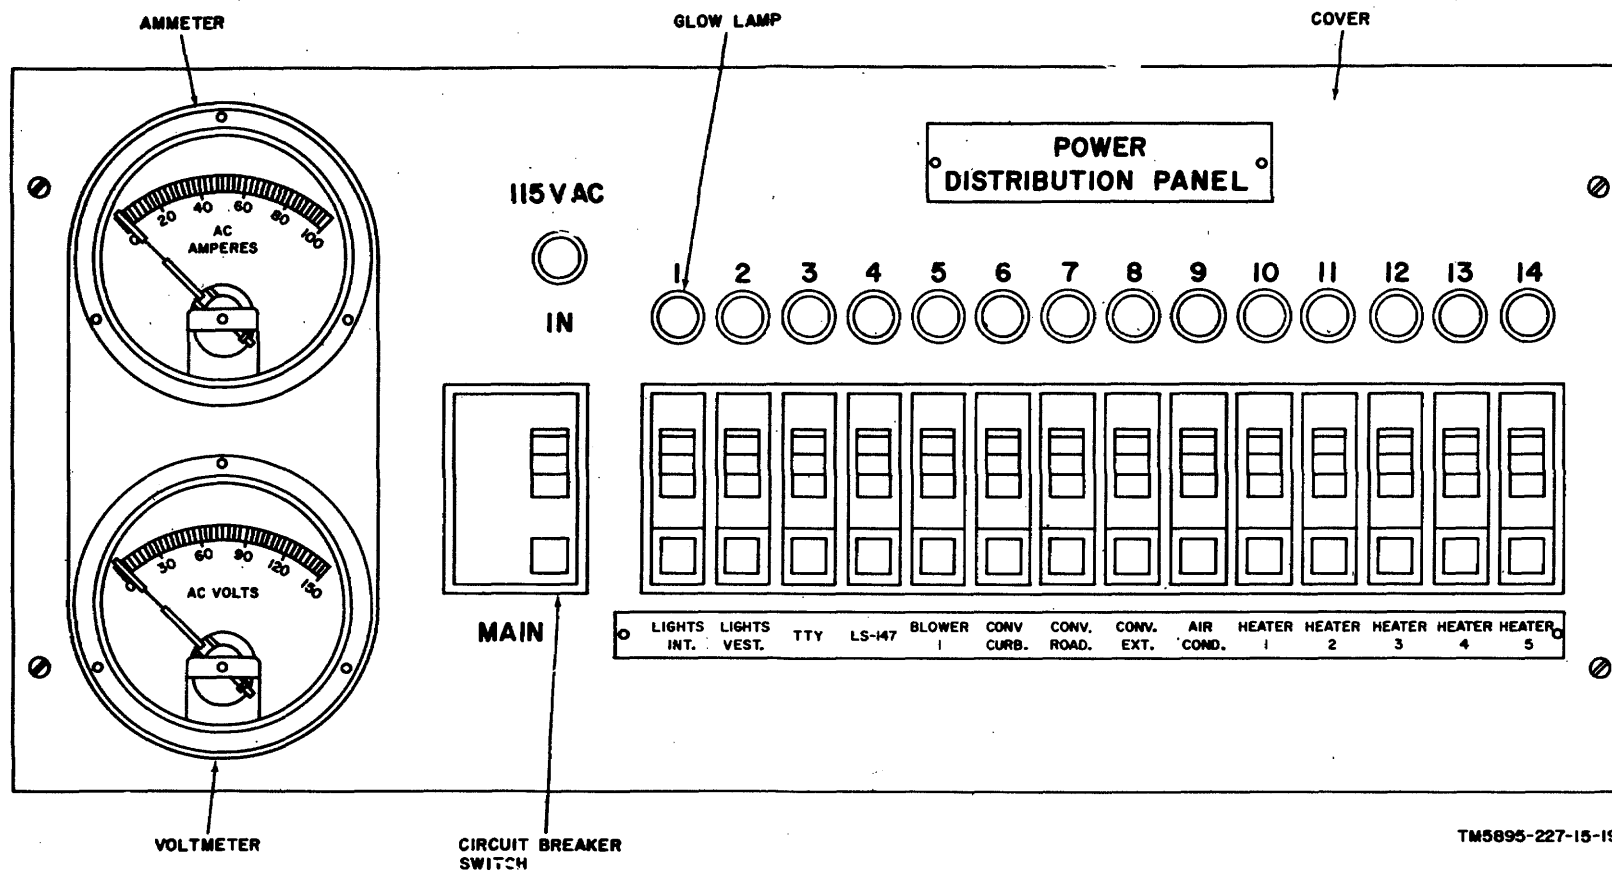

Figure 13. Power distribution panel.
- (5) *Power distribution panel* (fig. 13). The power distribution panel is located on the rear wall of the van (fig. 17). A glowlamp, associated with each power distribution circuit breaker switch (1 through 14), lights when the switch is at ON.